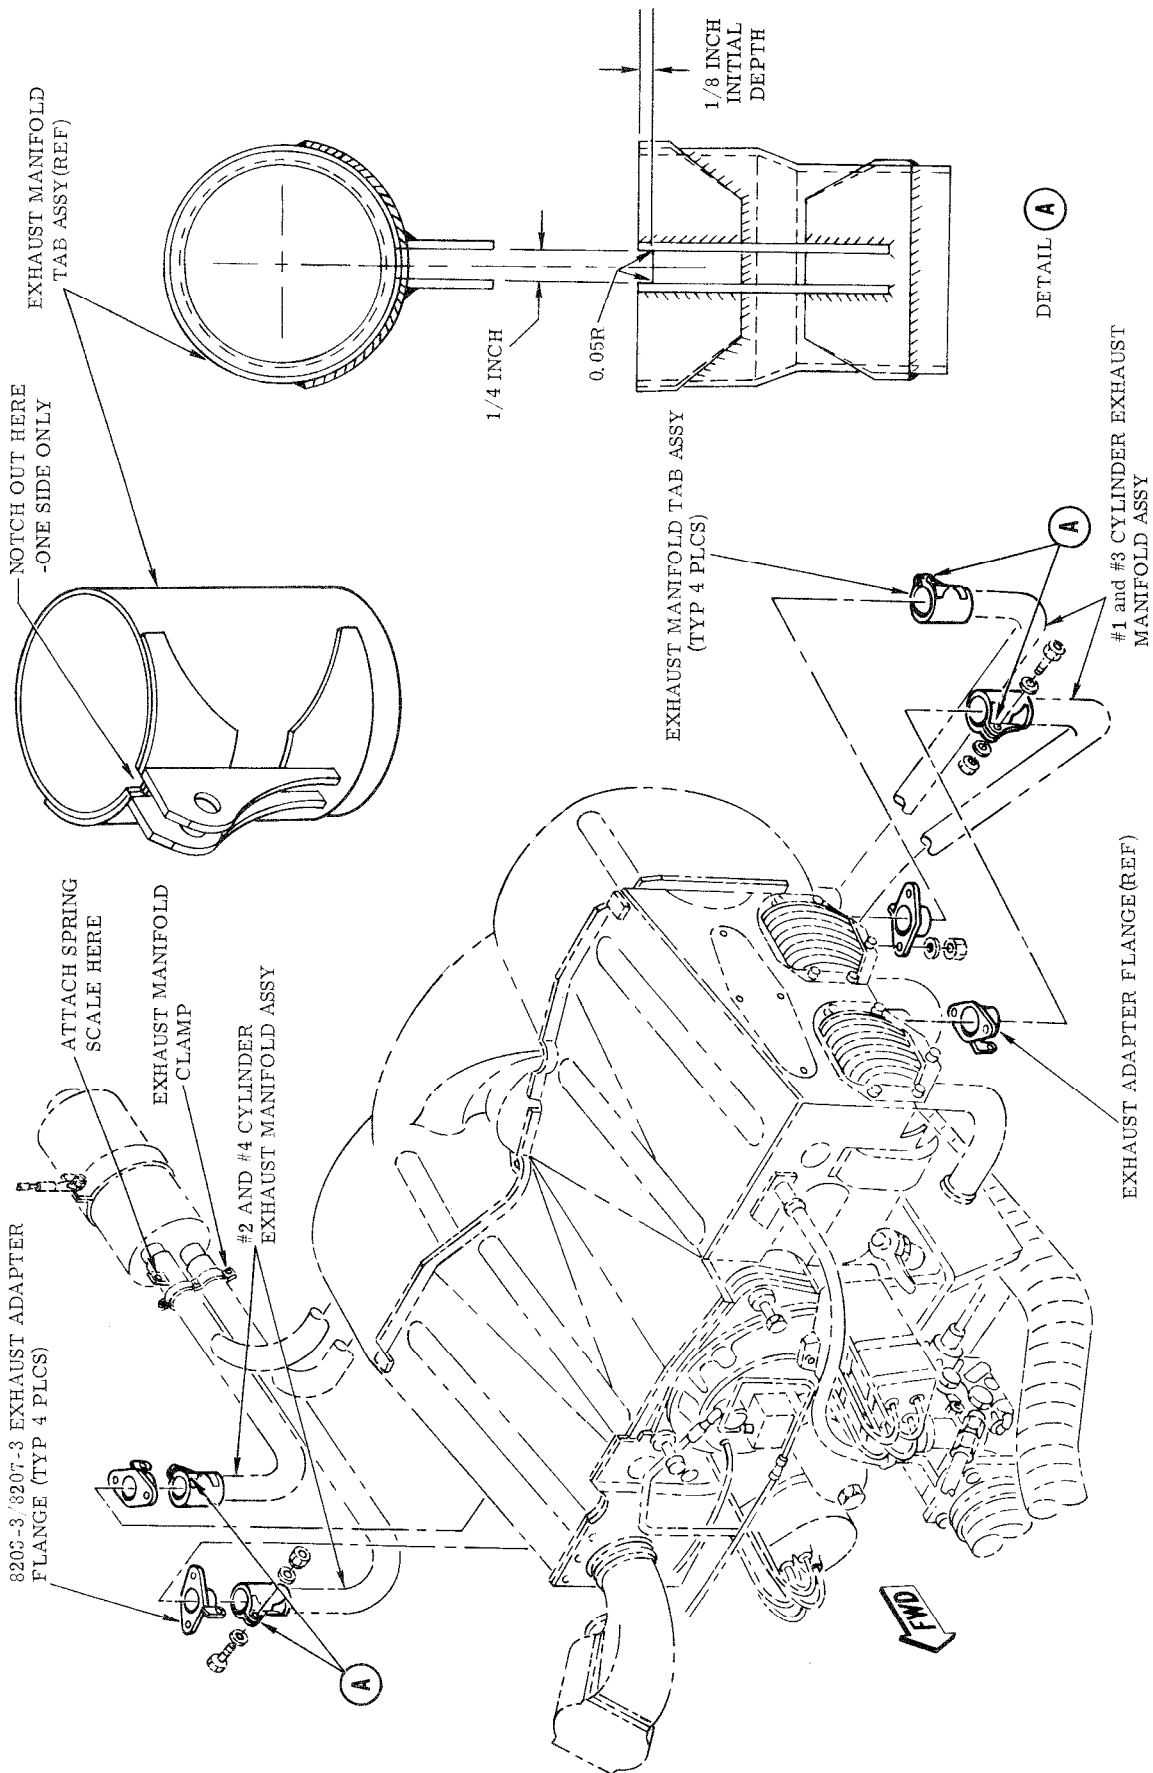

FIGURE 1. EXHAUST MANIFOLD ASSEMBLY - FIELD MODIFICATION
- d. Notch out area on all four exhaust manifold tab assemblies to dimensions shown. (See Figure 1)